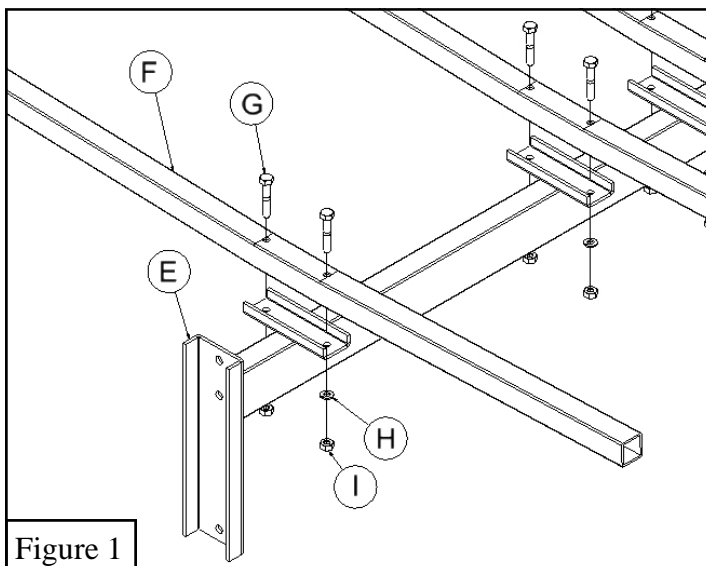

Figure 1
1. Using the *1/4" Hex Bolts (G)*, *1/4" Lock Washers (H)*, and the *1/4" Hex Nuts (I)* bolt all *12 Hangers (F)* to the *2 Crossbars (E)*. See Figure 1.